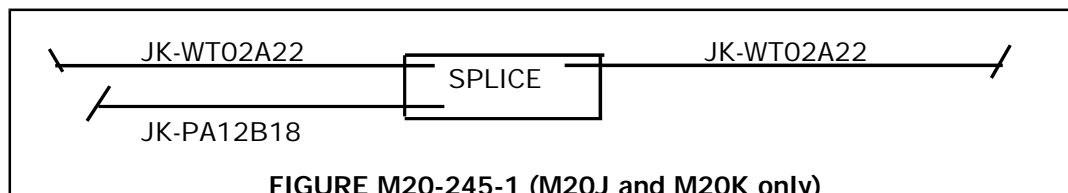

FIGURE M20-245-1 (M20J and M20K only)
8. Use AMP 320559 wire splice to re-connect wire number JK-WT02A22 and the unconnected end of new wire JK-PA12B18 (SEE FIGURE M20-245-1).